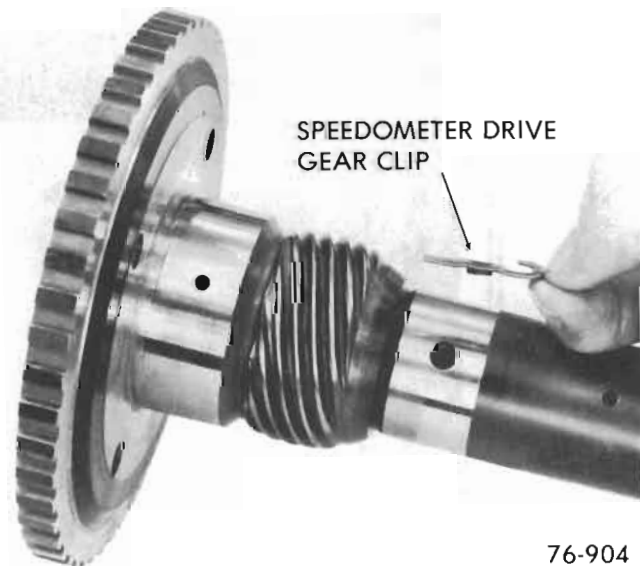

Figure 76-111
c. *Nylon Speedometer Drive Gear*: Depress retaining clip and slide nylon gear off output shaft. See figure 76-111.
d. To install, place retaining clip (square end toward flange of shaft) into hole in output shaft. See Figure 76-111.